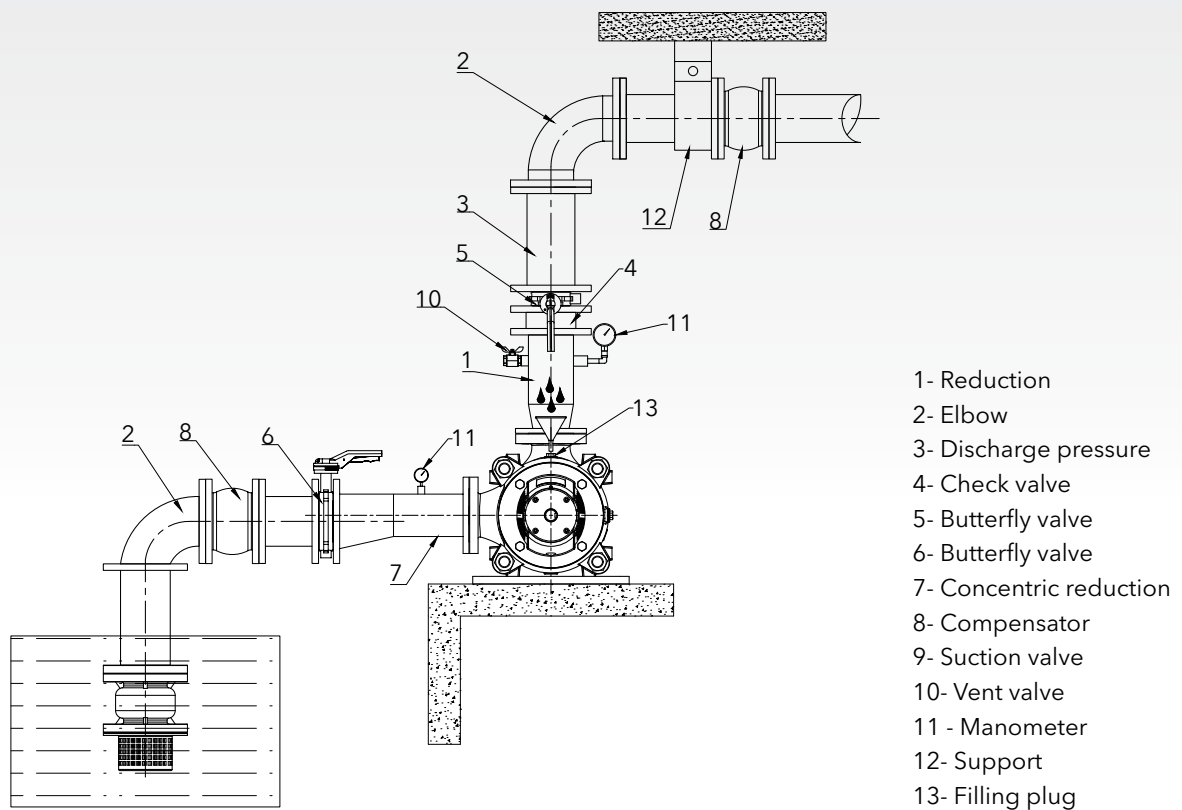

Figure 8
- The suction head line is laid with an upward slope in the downward sloping positive suction load line towards the pump. See Figure 8 on page 22.